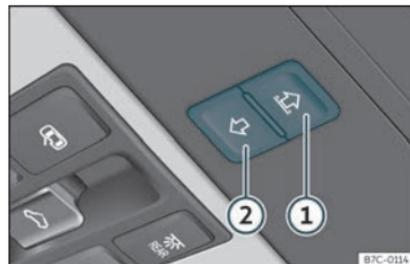

Fig. 85 On the interior roof lining: sunshade blind buttons.
Buttons >>> Fig. 85 ① and ② have two levels. The first level opens or closes the sun blind fully or partially.
- **Sun blind:** within approximately 5 seconds of having activated the anti-trap function, press button **>>> Fig. 85 ②** until the sun blind closes completely.